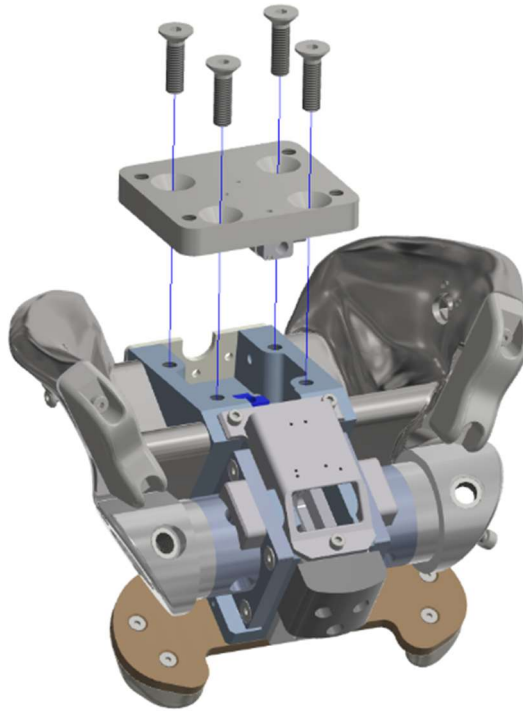

Figure 8-11. Remove the Upper Torso to Pelvis Adaptor Plate (474-4004)
- 8.2.7 Remove the Upper Torso to Pelvis Adaptor Plate (474-4004) by removing four M8 X 1.25 X 30 LG. FHCS (Figure 8-11).